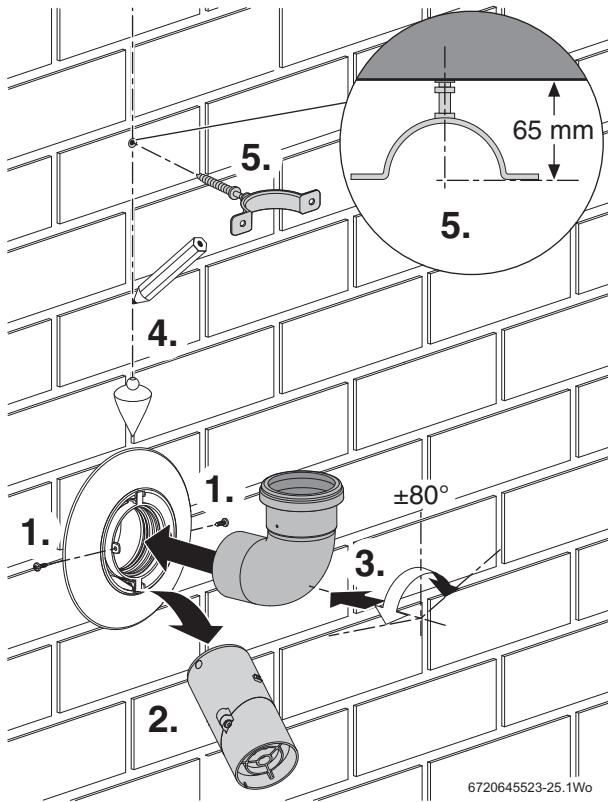

Fig. 48 Terminal bend installation
Refer to figure 48 for terminal bend installation.
4. Screw the clamp into the wall plug to the distance shown in figure 48.
1. Refer to figure 48, remove and retain the screws securing the terminal end and discard the terminal end.
1. Refer to figure 48 and remove and retain the screws and terminal end.